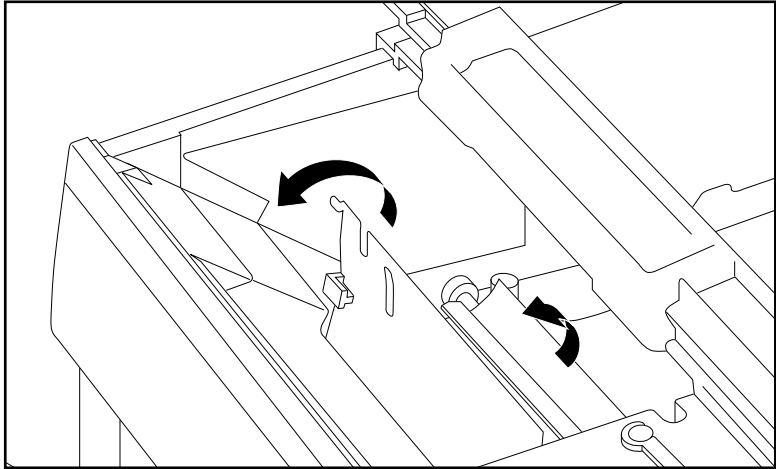

Fig. 10.8 Remove the Jam via the Access Door Area
- b. Remove the jam gently by first moving it toward the printer and then pulling it toward you (fig. 10.8).